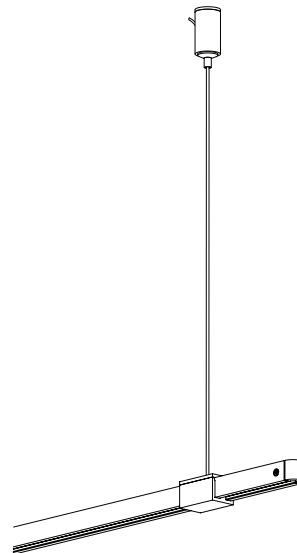

Fig. 6
3. Insert the cable into the post and adjust to the desired length: to shorten, push the cable up; to lengthen, push in the plunger while pulling down on the cable, release the plunger to lock. Cut off the excess cable where it exits the post. (Fig. 6)